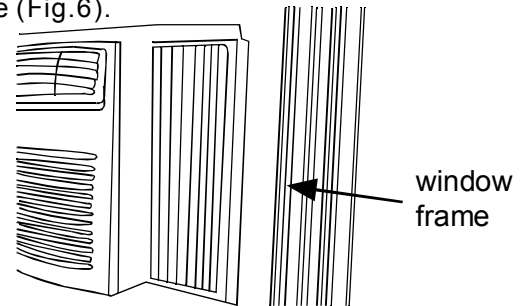

Fig. 6
- B. Extend the side panels out against the window frame (Fig. 6).